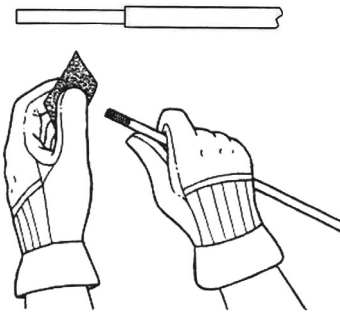

Fig. 1
2. Use emery cloth provided to roughen surface of fiberglass core end (Fig. 1). Do not remove large amounts of material during sanding.